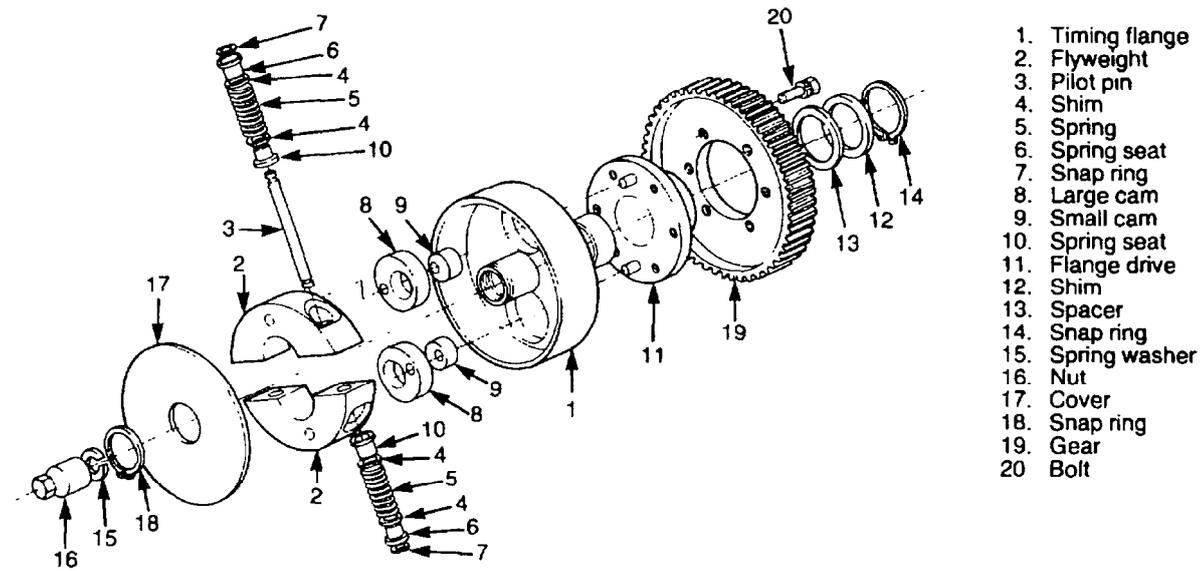

Figure 40 Automatic Timer – Exploded View
79. The automatic timer achieves this function by means of flyweights, springs and eccentric cams (refer to Figure 40).